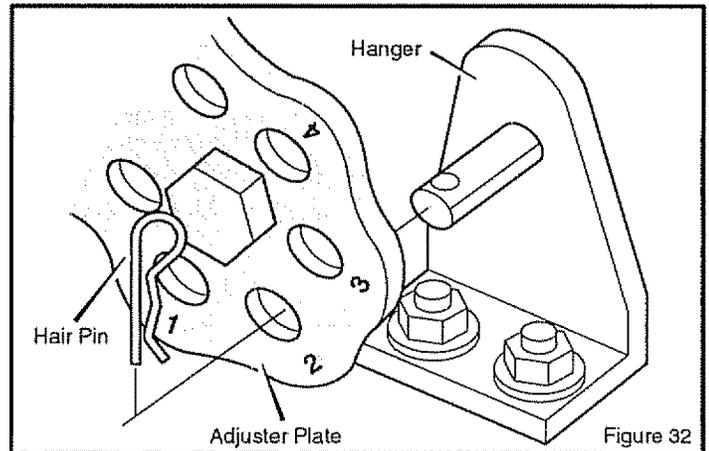

Figure 32
1. Disconnect one or both adjuster plates from the hangers (Figure 32).